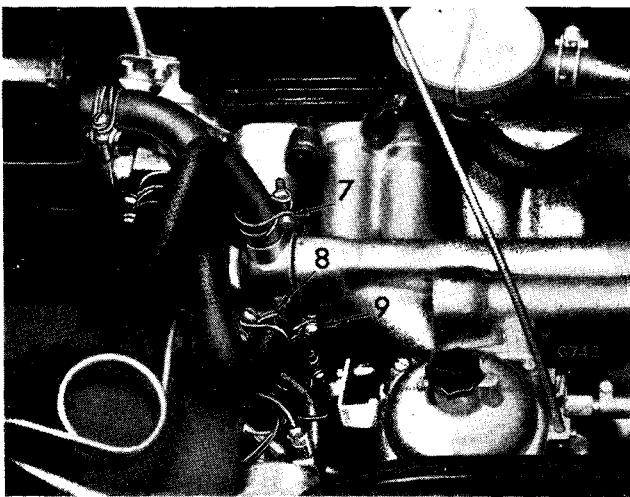

Fig. 81. Right hand view of engine
Referring to Fig. 81, disconnect the three heater pipes (7), (8), (9) and the throttle linkage.